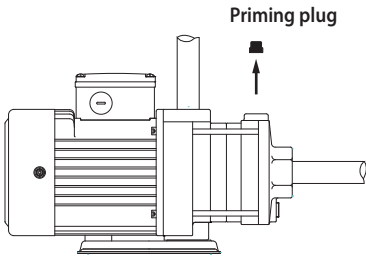

Fig. 1
- 3.1.1.2 Remove the priming plug, fig. 1.